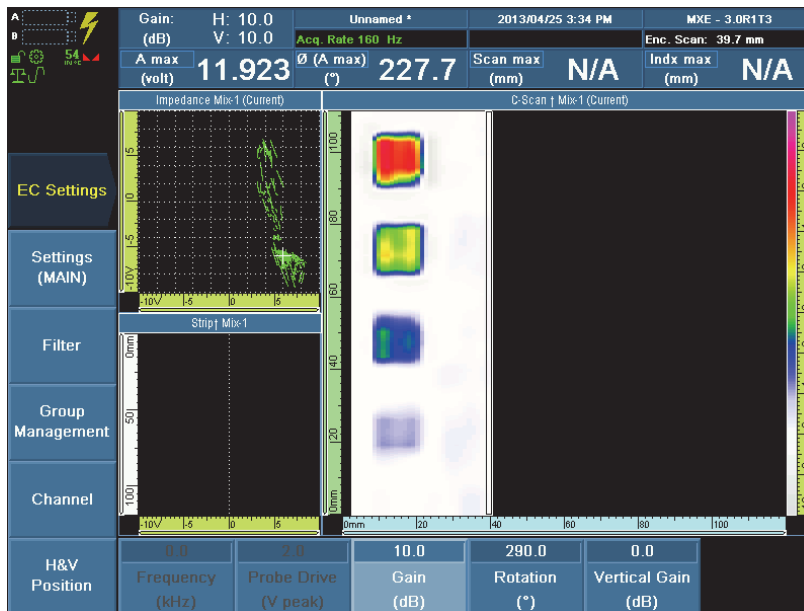

Figure 9-33 Fine-tuning the defect's signal to expand and rotate
1. Select **EC Settings > Settings (MAIN) > Gain (dB)**, set the value to expand the signal, ensuring that it spans approximately 6 grid divisions in the impedance plane view, and then press the Accept key to confirm. Typically, the **Gain (dB)** parameter value can be increased by 10 dB to 20 dB (see Figure 9-33 on page 178).